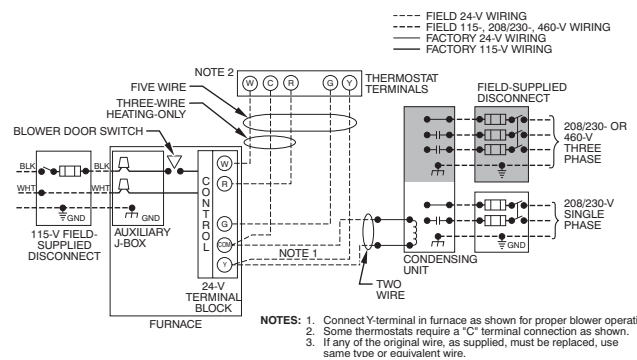

Fig. 33 – Typical Field Wiring Diagram
See Fig. 33 for field wiring diagram showing typical field 115-V wiring. Check all factory and field electrical connections for tightness.
6. Connect power cord power and neutral leads to furnace power leads as shown in Fig. 33.
5. Connect field power and neutral leads to furnace power leads. as shown in Fig. 33.
Make field 24-V connections at the 24-V terminal strip. See Fig. 38. Connect terminal Y as shown in Fig. 33 for proper cooling operation. Use only AWG No. 18, color-coded, copper thermostat wire.